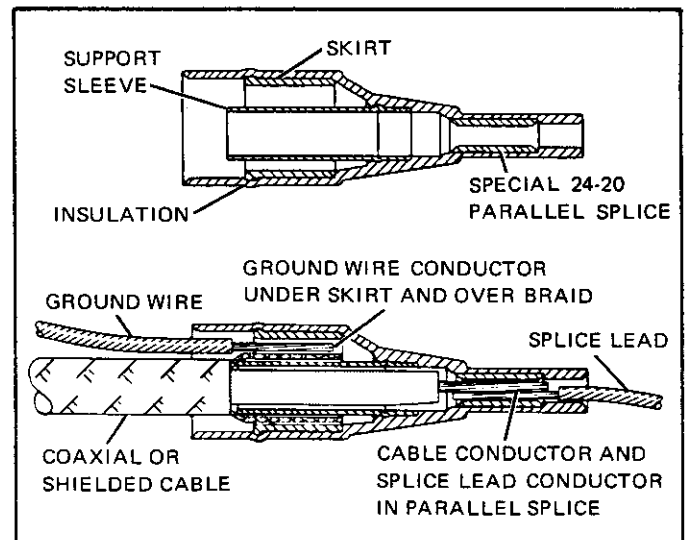

Figure 2
#### 2.2.1 Cable Insertion (Refer to Figure 2)
- Stripped conductor of cable must enter parallel splice as shown in Figure 2.
(Refer to Figure 2)